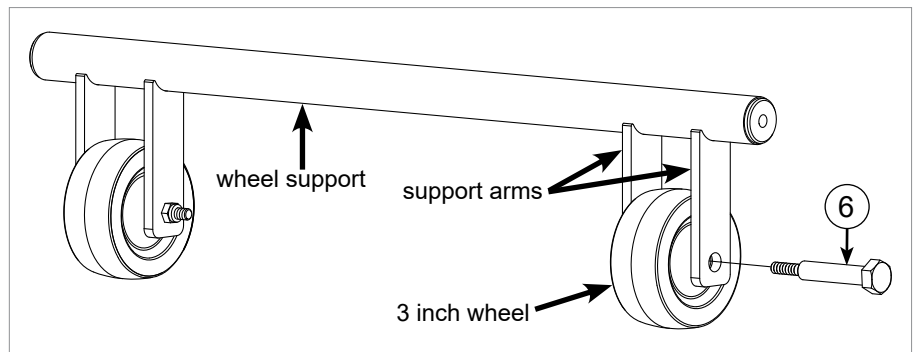

Fig. 8
8. Mount the second 3 inch wheel to the other end of the wheel support using the other fixed wheel axle, but do not thread a nut onto the axle (see Fig. 8). The fixed wheel axle passes through the outer support arm and threads through the inner support arm. Set the wheel support aside for a moment.